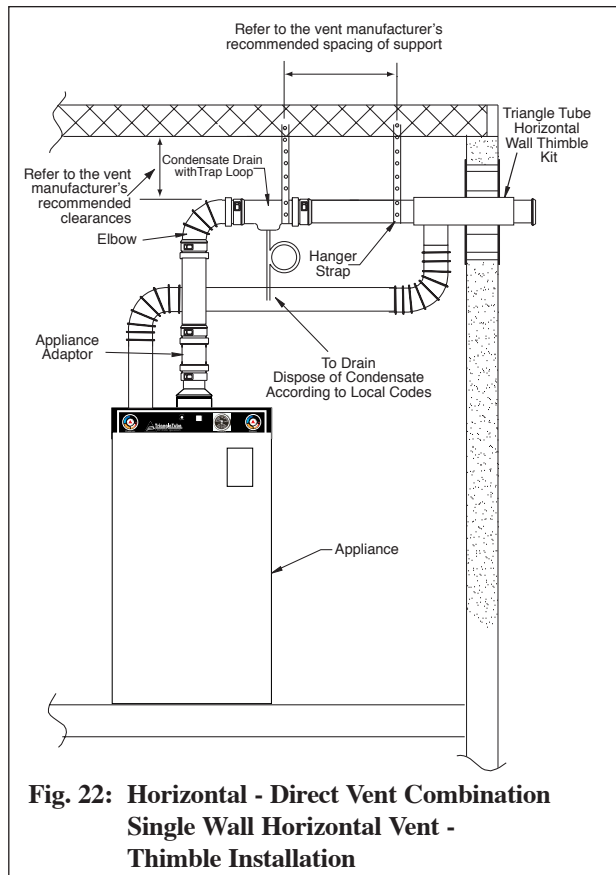

Fig. 22: Horizontal - Direct Vent Combination Single Wall Horizontal Vent - Thimble Installation
- a. The vent system should contain a condensate trap located near the unit as shown in Figs. 22, 22A & 22B, page 36.
Combination: The vent and combustion air terminate at a single concentric point using the Horizontal Concentric, Horizontal Single Wall Vent or Horizontal Wall Thimble Kit. See Figs.: 22,22A and 22B, page 36.